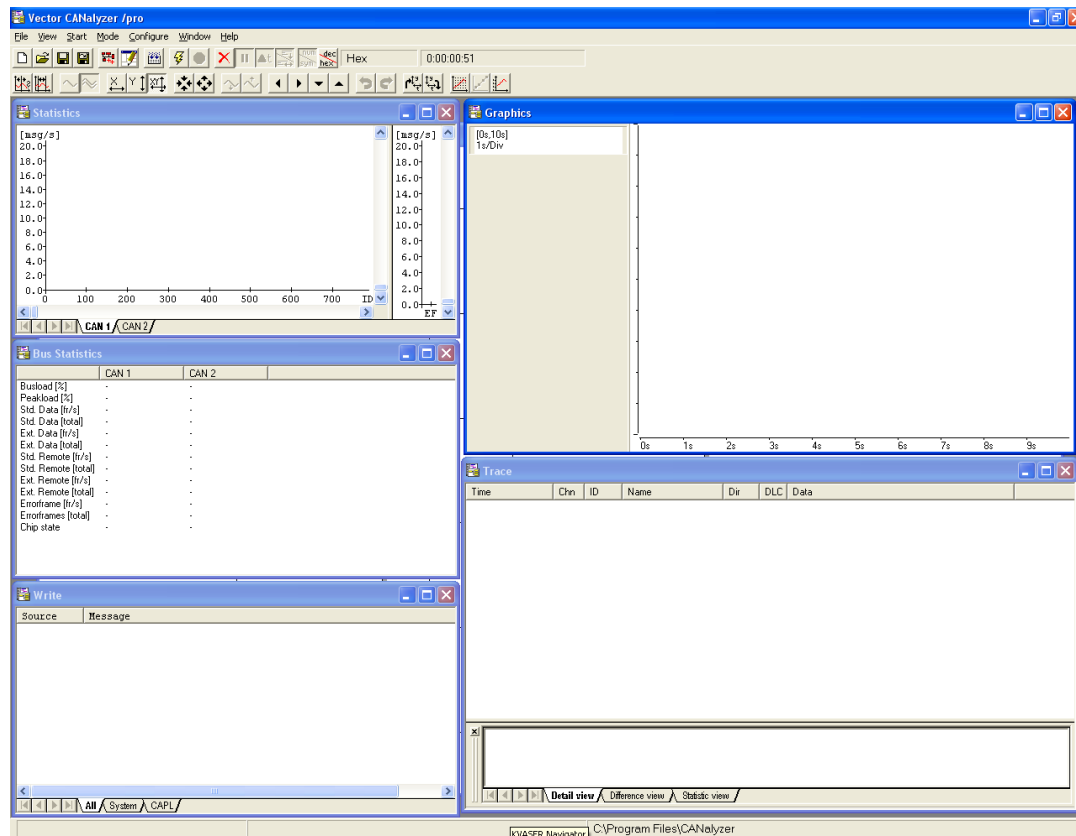

Figure 28. New configuration in CANalyzer.
- Start CANalyzer and create a new clean configuration. See Figure 28.